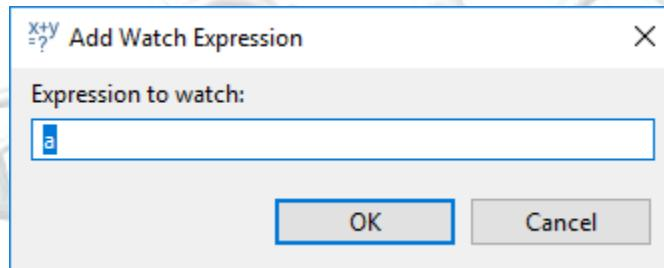

Figure 19. Add Watch Expression Dialog
Step 2. In the Add Watch Expression Dialog box (Figure 19) click the <OK> button.